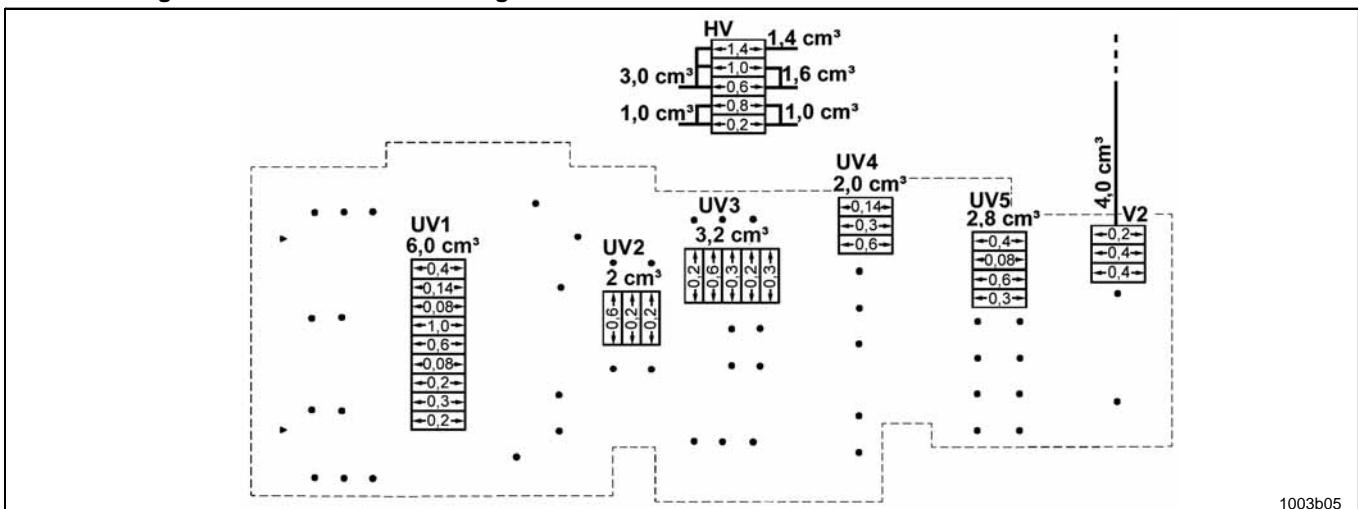

Fig. 36 Example for determining the size of the main metering device
- First, allocate one outlet of the main metering device to each secondary metering device (UV).
- Check whether one or several lube points require larger lubricant quantities. As shown in Fig. 36, two lube points are provided with lubricant via one metering device V2. Due to the increased lubricant requirement, metering device V2 is connected directly to a pump element (output 2 cm³).
- Maximum size of the main metering device (HV): SSV D 22.